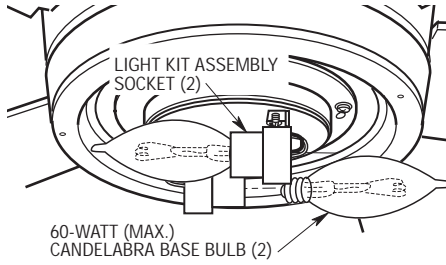

Figure 16
- 7. Screw in two 60-watt (maximum) candelabra base bulbs (not included) in the light kit assembly sockets (Figure 16).